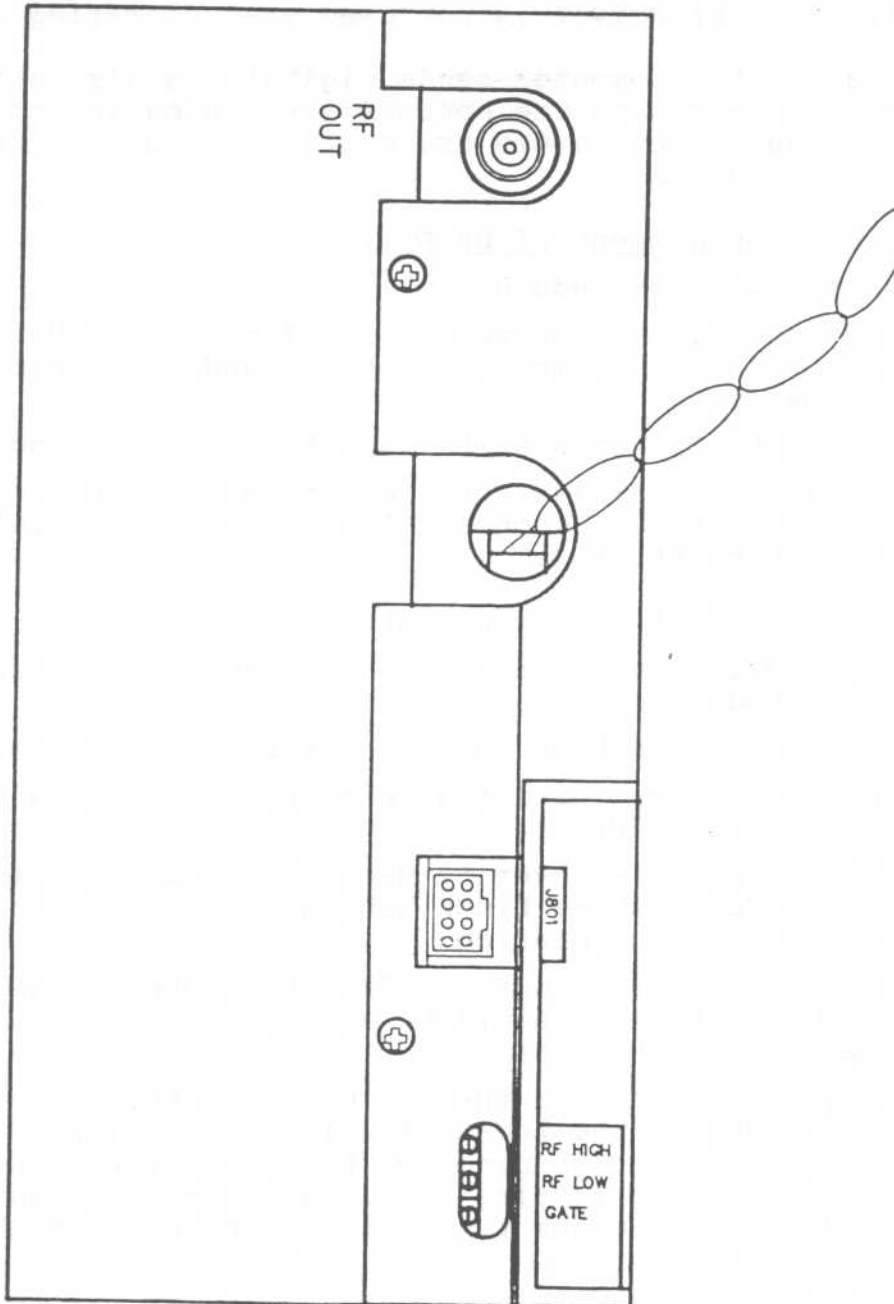

Figure 8-5. Panel on RF Driver
5. Go to High-RF, then note the IR output at the LAM mount. It should be equal to the Low-RF level. If it is not, adjust the "RF LOW" pot on the panel of the RF Driver to get an IR output equal to the reading obtained in the previous step, (#4). (Figure 8-5 shows the locations of pots on the RF Driver panel.)
7. Put probes from DVM into TP-3 and TP-1 on smart-load PCB (refer to Fig. 8-5 for test points).